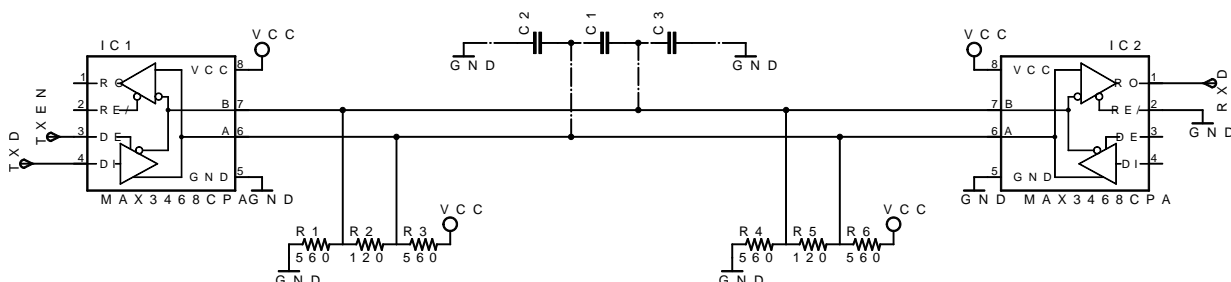
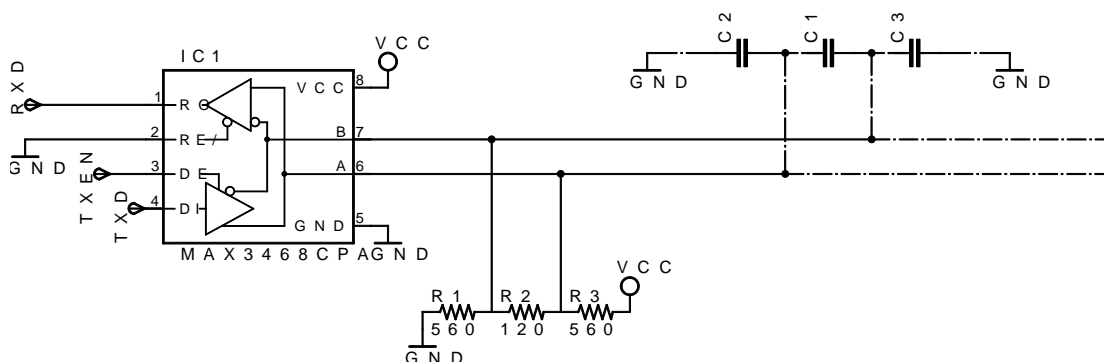

Figure 6: Two 75176 line drivers (one-way config)
Figure 7: 75176 line driver test
Figure 6 shows the schematic of a point-to-point RS485 link shown as configured for left-to-right transmission only. Note the parasitic capacitances C1, C2, and C3. We will conduct experiments using only one 75176 chip as shown in Figure 7.
1. Assemble the circuit in Figure 7 on the breadboard excluding the resistors R1 and R3 at the moment.